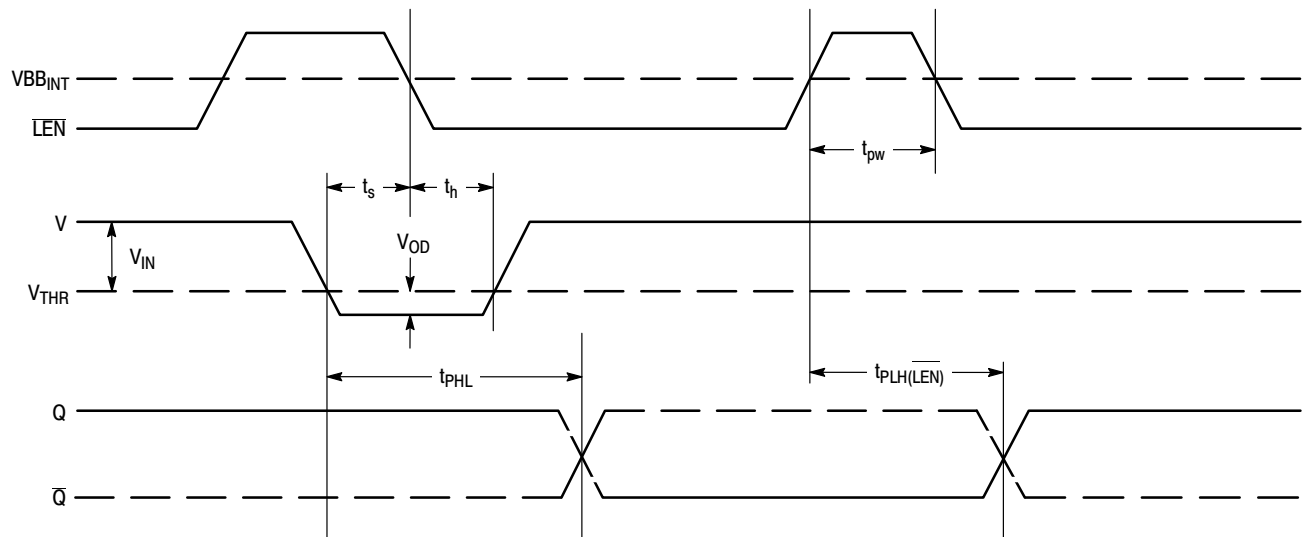

Figure 5. Input/Output Timing Diagram
12. Refer to Figure 5 and note that the input is at 2.5 V TTL levels with the input threshold range between the 20% and 80% points. The delay is measured from the crosspoint of the input signal and the threshold value to the crosspoint of the Q and $\bar{Q}$ output signals.
The timing diagram (Figure 5.) is presented to illustrate the MC10E1652's compare and latch features. When the signal on the $\overline{\text{LEN}}$ pin is at a logic high level, the device is operating in the "compare mode," and the signal on the input arrives at the output after a nominal propagation delay (t_{PHL} , t_{PLH}). The input signal must be asserted for a time, t_s , prior to the negative going transition on $\overline{\text{LEN}}$ and held for a time, t_h , after the $\overline{\text{LEN}}$ transition. After time t_h , the latch is operating in the "latch mode," thus transitions on the input do not appear at the output. The device continues to operate in the "latch mode" until the latch is asserted once again. Moreover, the $\overline{\text{LEN}}$ pulse must meet the minimum pulse width (t_{pw}) requirement to effect the correct input-output relationship. Note that the $\overline{\text{LEN}}$ waveform in Figure 5. shows the $\overline{\text{LEN}}$ signal swinging around a reference labeled VBB_{INT} ; this waveform emphasizes the requirement that $\overline{\text{LEN}}$ follow typical ECL 10KH logic levels because